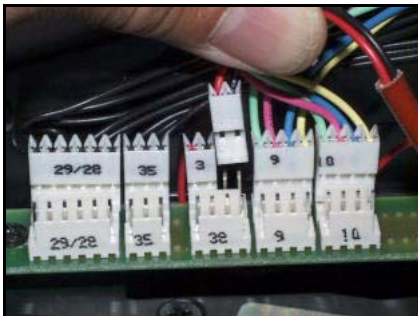

Fig. 1. Unplug left junction print
- 2 Disconnect plugs 28/29, 9, and 10 from the inside row of the left-side zoom module junction print. (Fig. 1.)